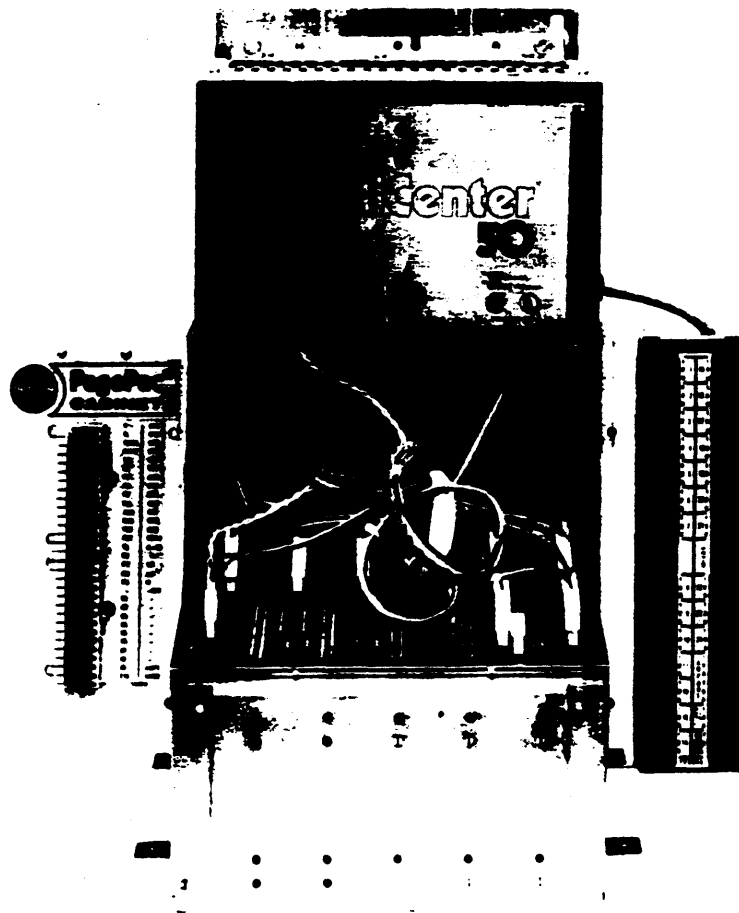

Fig. 38—Removing the Card File
- (4) Refer to Fig. 38 and pull the card file straight out until it clears the assembly.
- (5) Disconnect all the plugs located on the card file's backplane.
- (6) Reinstall the card file by performing the foregoing steps in the reverse order.